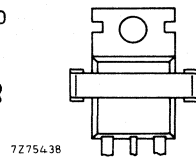

Fig. 2a Position of transistor (top view).
3. Push down the clip over the device until the long end of the clip snaps into the wide slot in the heatsink. The clip should bear on the plastic body, not on the tab (see Fig.2a).